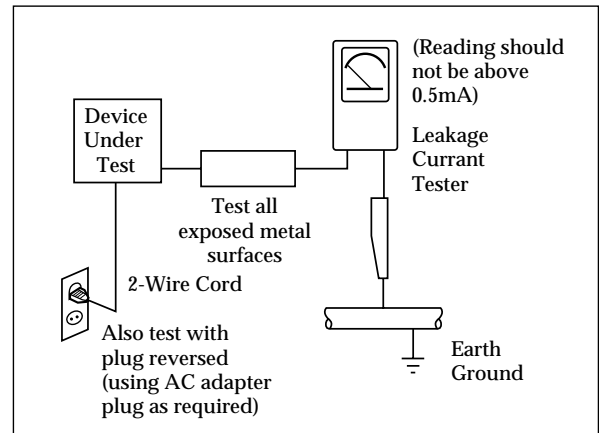

Fig. 1-1 AC Leakage Test
5. Leakage Current Hot Check (Figure 1-1):